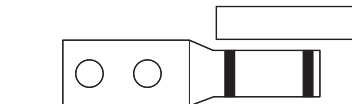

Figure 1
1. Confirm compatibility of aluminum connector and cable size.(Figure 1).